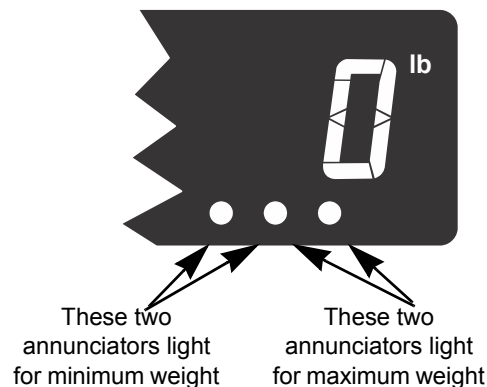

Figure 3.2 Min/Max annunciators
Only the highest weight applied to the scale is displayed when the peak weight value is selected to be displayed. Minimum weight is designated by a pair of green *circle* annunciators. Maximum weight is designated by a different pair of green *circle* annunciators. See Figure 3.2.
1. Repeatedly press **SELECT** until the two green circle annunciators on the right light up. See Figure 3.2. This means you are now viewing the peak or maximum weight.